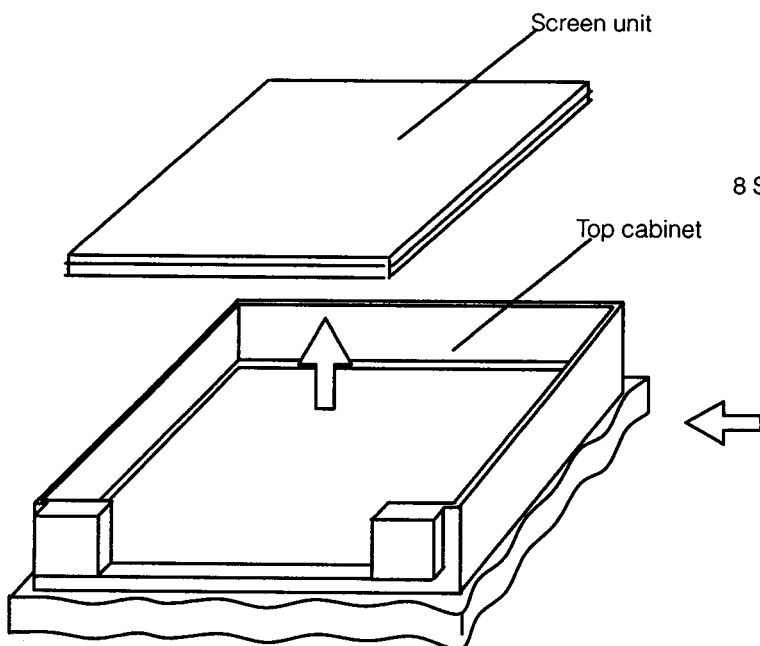

Fig. 23
5. Remove 24 screws and screen holders, which secure the screen unit to the top cabinet. **Fig. 23** .